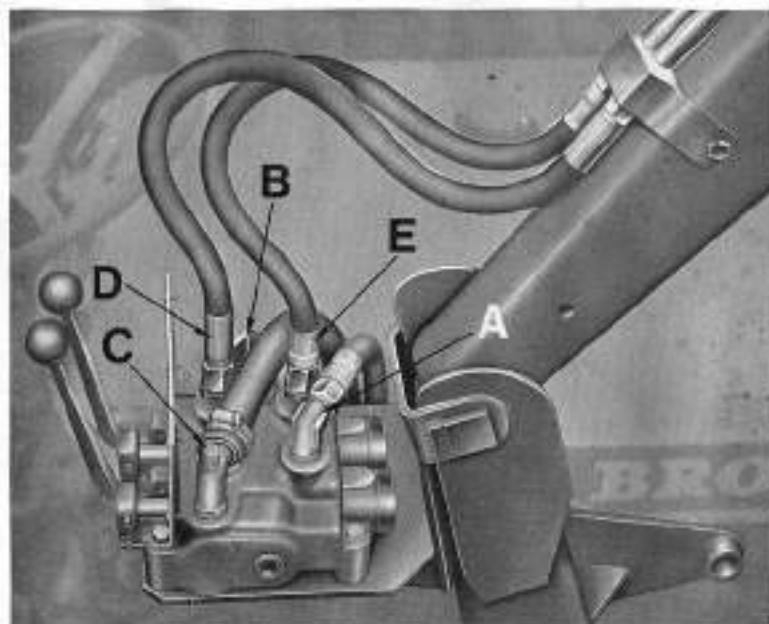

FIGURE 1. CONNECTION OF PIPES TO GRESEN CONTROL VALVE
2. Reference to Figure 1 will show the position of the control valve ports with the elbows and adaptors fitted. These are normally fitted before the unit leaves the factory.